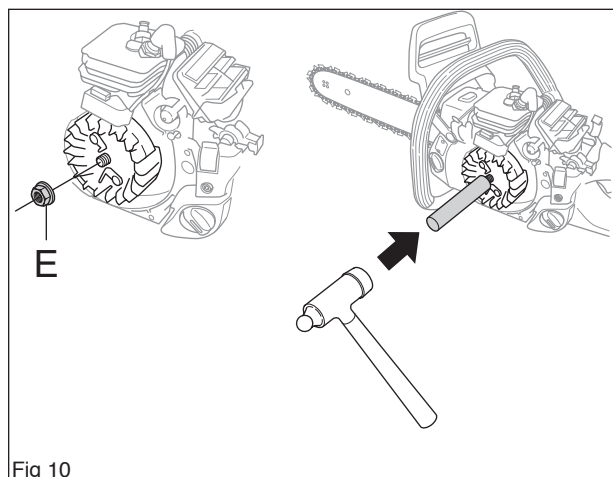

Fig 10
Loosen the flywheel nut (E) using a suitable socket and remove it. (see figure 10)
Knock on the punch using a metal mallet until the flywheel releases from the shaft. Remove the punch and the flywheel. (see figure 10)